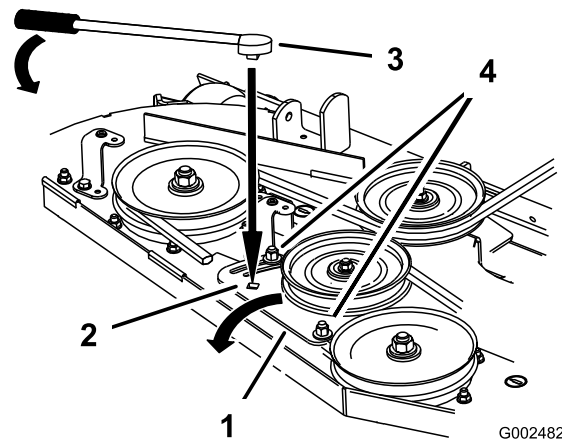

Figure 52
5. If adjustment is required, loosen the mower idler plate and adjust it (Figure 52).
6. Insert a ratchet or breaker bar into the square hole in the mower idler plate to adjust the tension (Figure 52).
7. To increase belt tension, rotate the mower idler plate until resistance is felt and rotation stops. Do not go past when it stops (Figure 52).
8. Tighten the idler plate bolts (Figure 52).
10. Adjust the belt tension and the idler plate, if necessary, and tighten all hardware securely (Figure 52).